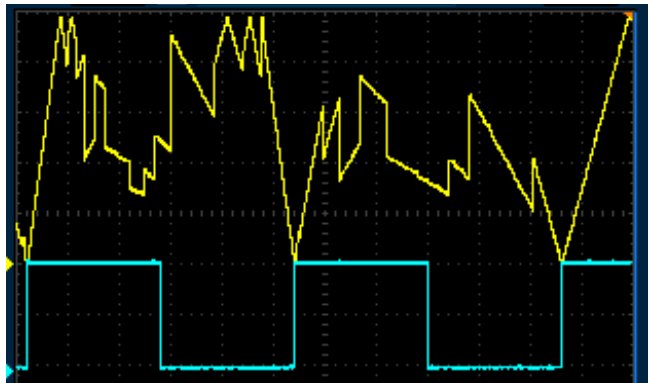

Figure 1B: Changing Div/Mult while holding a gate high on QNT
- Giving a pulse to the QNT jack will force an update of the div/mult amount immediately (in the middle of a curve if necessary). If you hold a gate high on the QNT jack, the div/mult amount will track the CV (glitchy envelope shapes can be obtained this way!) See Figure 1B.